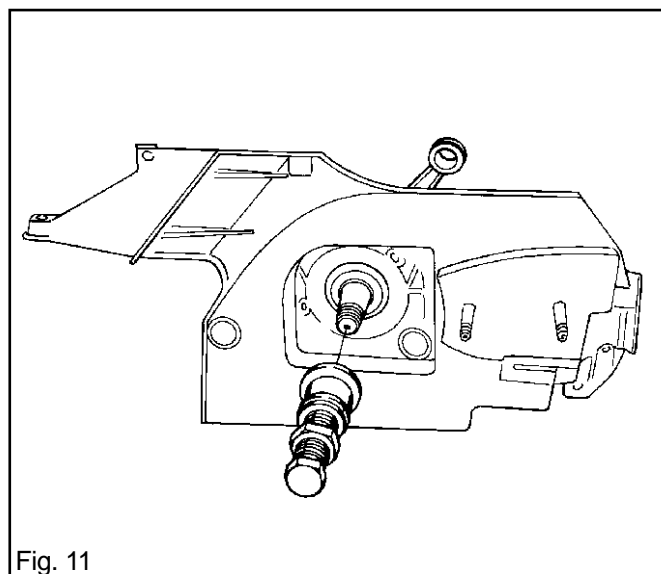

Fig. 11
3. Use tool 502 50 30-14 and pull the crankshaft into the clutch half of the crankcase. See fig. 11. Pull until the crankshaft shoulder mates with the bearing.